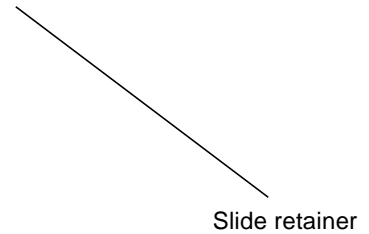

FIGURE B-2 Unclipping the Slide Retainer
3. If the system already contains a PCI card, unclip the slide retainer from the edge of the card (see FIGURE B-2).
- a. Remove the screw at the rear of the unit and push the mid baffle towards the drive bays (see FIGURE B-2).